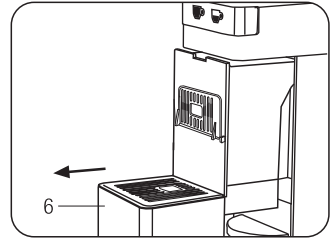
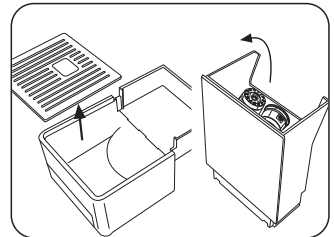

Fig. 11
Fig. 12
Up to 8 capsules can fit into the capsule receptacle. It is advisable to regularly empty the receptacle to prevent the capsules from getting stuck inside it. To do this, you need to remove the capsule receptacle (6). **(Fig. 11)** Empty the capsule receptacle and rinse. Clean off any water and coffee residues from the drip tray and grid **(Fig. 12)**. Once clean, reintroduce the tray and the capsule receptacle into the machine .